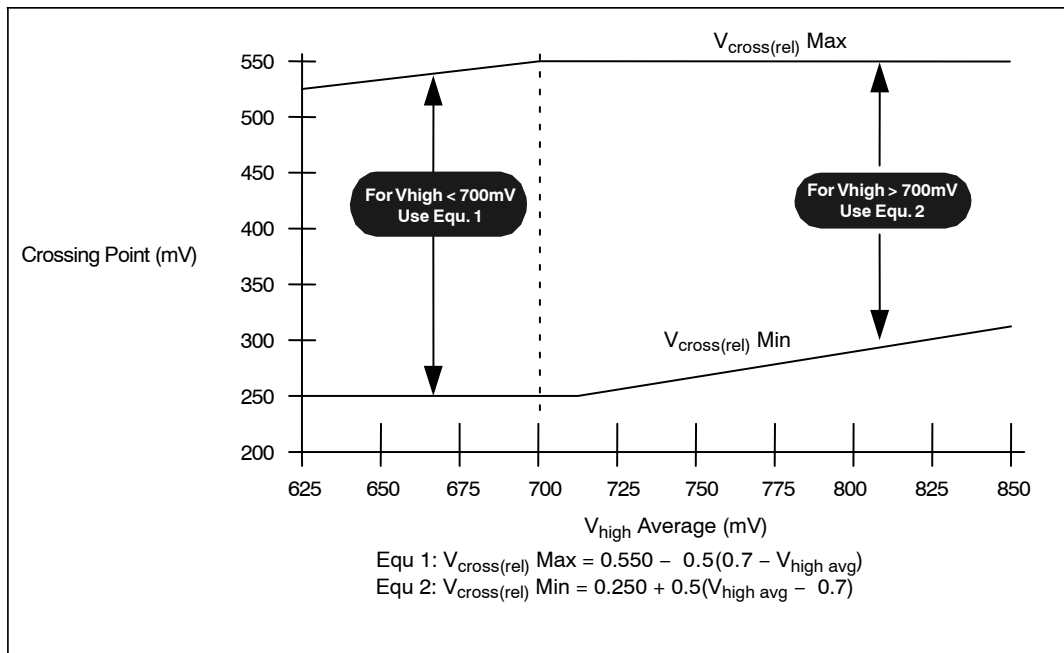

Figure 16. V_{cross} Range Clarification (Note 36)
16. Vcross(rel) Min and Max are derived using the following, Vcross(rel) Min = $0.250 + 0.5 (V_{\text{high avg}} - 0.700)$. Vcross(rel) Max = $0.550 - 0.5 (0.700 - V_{\text{high avg}})$, (see Figure 16 for further clarification).